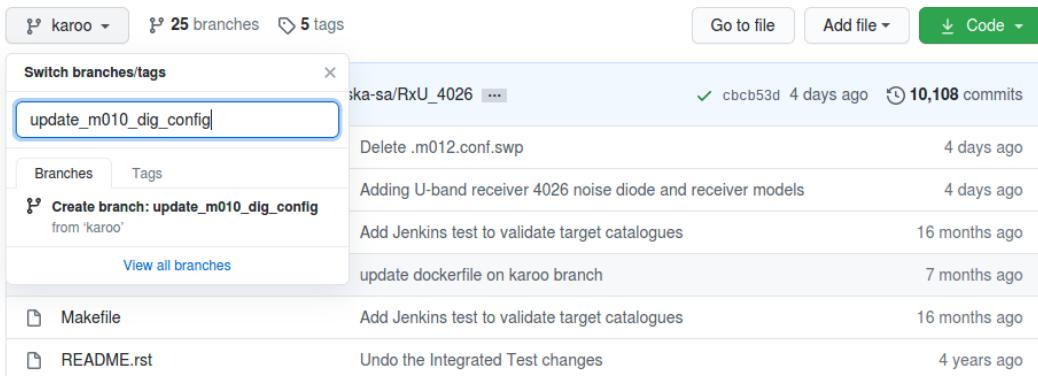

Figure 4.6: Github create pull request
- Create pull request from `update_m0XX_dig_config` (name of branch created) to karoo by clicking on “Pull request” at the top right as shown in **Figure 4.6**.